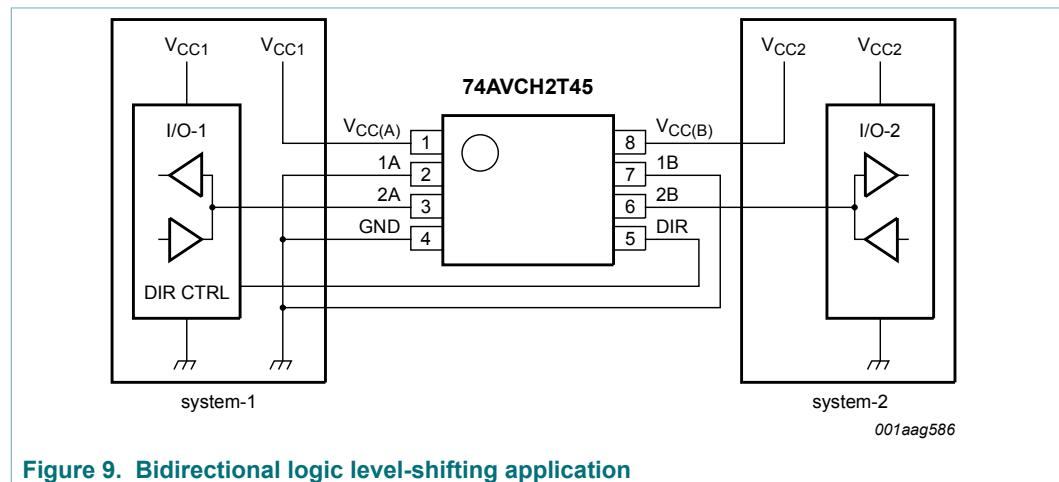

Figure 9. Bidirectional logic level-shifting application
Figure 9 shows the 74AVCH2T45 being used in a bidirectional logic level-shifting application. Since the device does not have an output enable (OE) pin, the system designer should take precautions to avoid bus contention between system-1 and system-2 when changing directions.